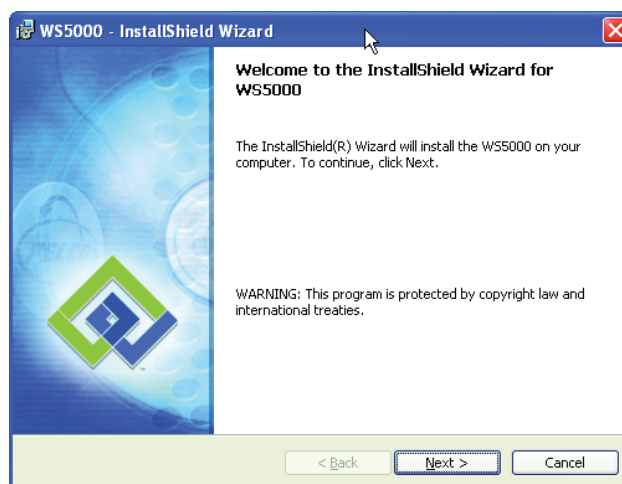

Figure 15. Installation Welcome Screen
2. In Windows Explorer, locate the folder where you downloaded the updated version of the software, and then double-click the setup program. The program prepares the installation files and displays the Welcome screen (Figure 15).